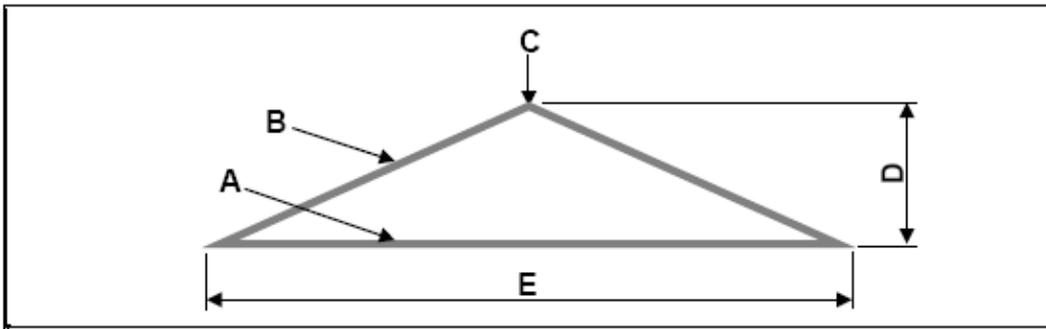

FIGURE 13.1
- 13.3 FIGURE 13.1 below shows a simple roof truss. Label A–E.